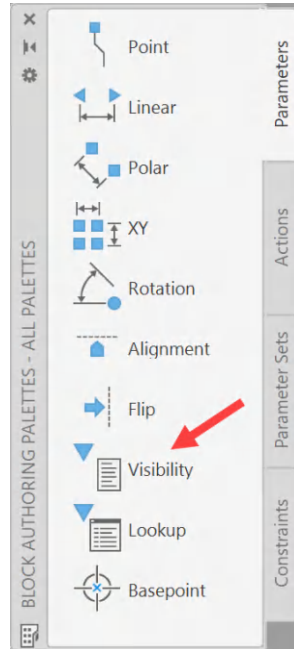

Figure 12.22: The Block Authoring Palette with the Visibility parameter indicated
4. Click on **Visibility** in the **Block Authoring Palette**, as shown in *Figure 12.22*.